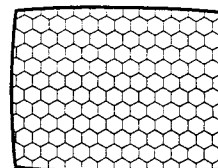

Figure 4. Honeycomb Pattern, In Focus
5. Control the light level entering the lens-side opening until a faint honeycomb image similar to Figure 4, appears on the monitor. Use one of the following methods for controlling the light level.